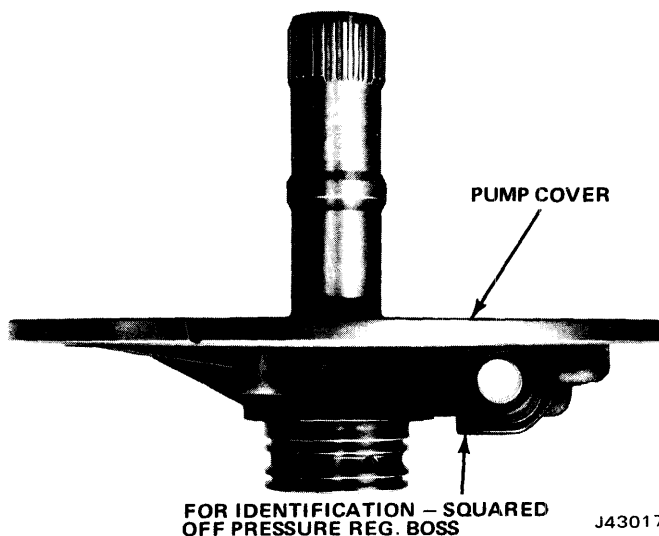

Fig. 7-4 Pressure Regulator Valve Application
**CAUTION:** *The solid-type pressure regulator valve does not contain oil holes and an orifice cup plug like the previous type pressure regulator valve. The solid-style valve must ONLY be used in the pump cover with the squared off pressure regulator boss (pressure boost bushing end) (fig. 7-4). The previous pressure regulator valve with the oil holes and orifice cup plug will be used to service either type pump cover.*